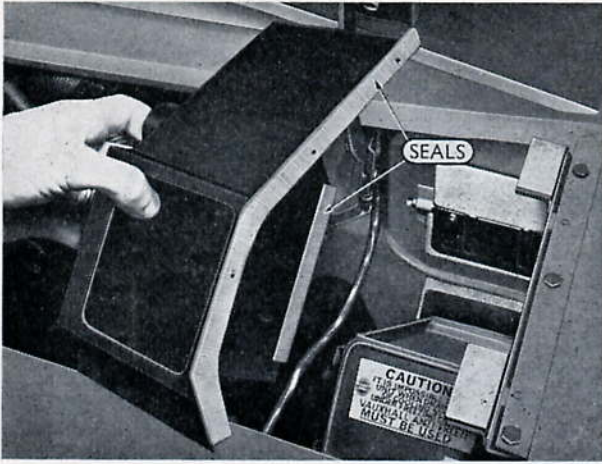

Fig. X.5. Installing heater radiator cover. Location of seals is indicated
2. Ensure that seals are fitted to the radiator cover (Fig. X.5). New seals, if required, are secured with a rubber adhesive.